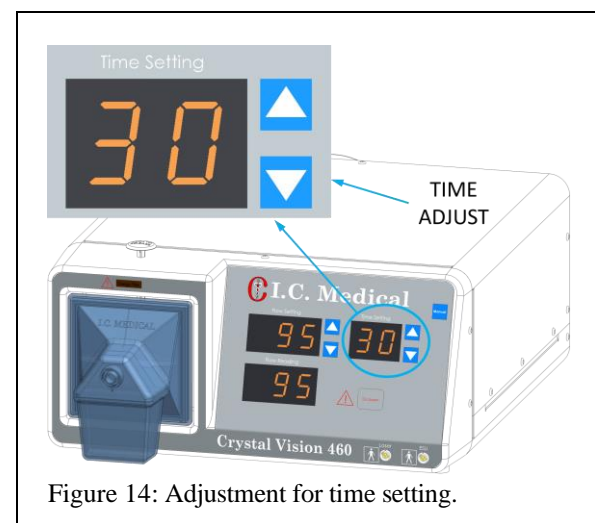

Figure 14: Adjustment for time setting.
5. TIME SETTING Buttons (Up and Down arrows) (Figure 14) varies the amount of time that the CRYSTAL VISION® continues to draw smoke, vapor, and gases from the surgical site.
TIME DISPLAY (METER) (Figure 14) indicates the amount of time that the CRYSTAL VISION® will operate after the foot switch, or hand switch, is deactivated (2 sec min- 30 sec max)